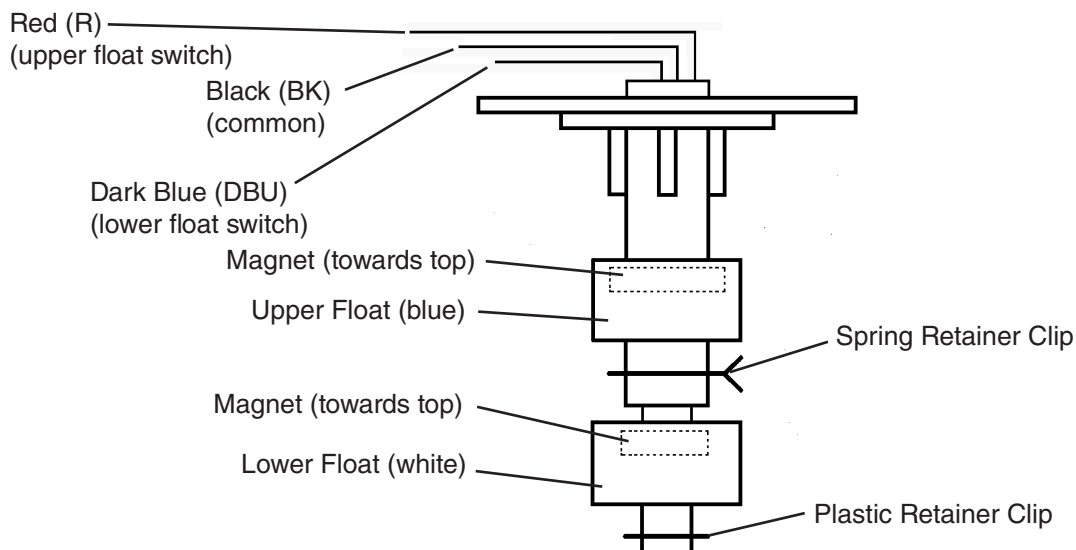

Fig. 4
- 5) While not necessary, the floats can be removed from the shaft during cleaning. If you remove them, note that the blue float is on top (UFS) and the white float is on bottom (LFS). The floats must be installed with the magnets inside them towards the top of the switch. See Fig. 4. Installing the floats upside down will affect the timing of FS operation.